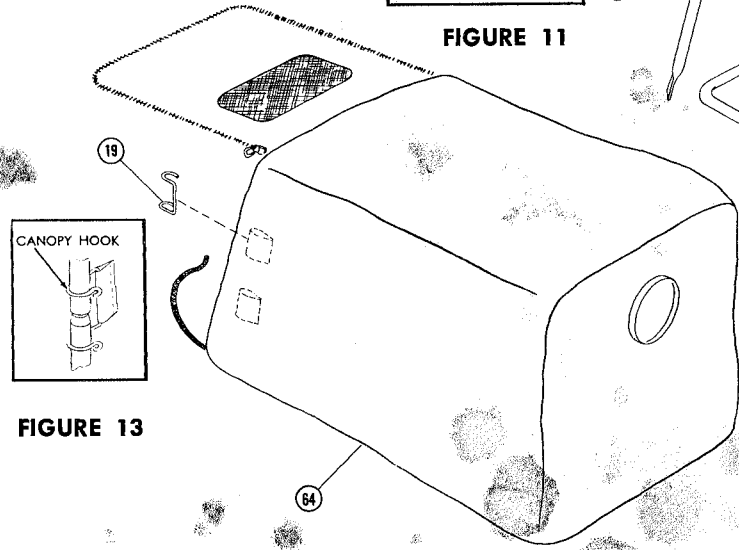

FIGURE 13
23. Install Canopy Hooks and fasten to rear tubes as shown in Figure 13.